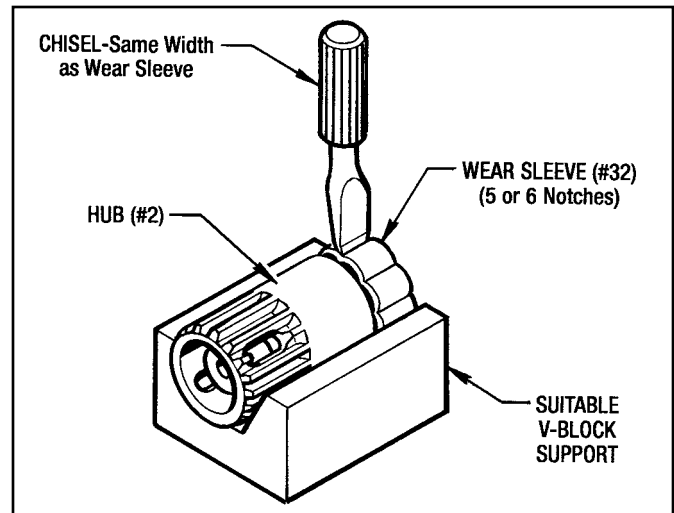

Figure 7.10 - Removing Wear Sleeve (#32)
1. Place the Hub (#2) into a V-Block. Using a chisel the same width as the Wear sleeve (#32), make about 5 or 6 notches in the Wear Sleeve (#32).as shown in Figure 7.10. It can now be removed by hand.